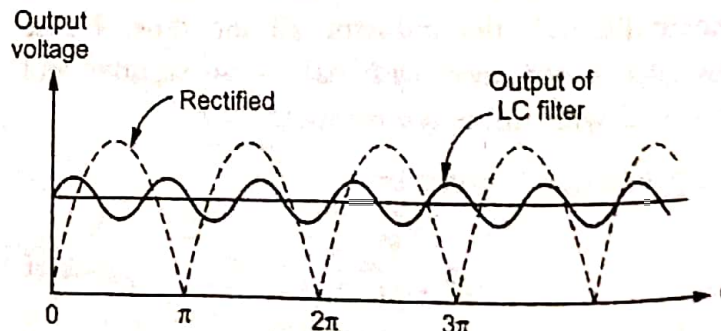

Fig. Q.31.2 Waveforms ac LC filter
- The Fig. Q.31.2 shows the waveforms of LC filter.